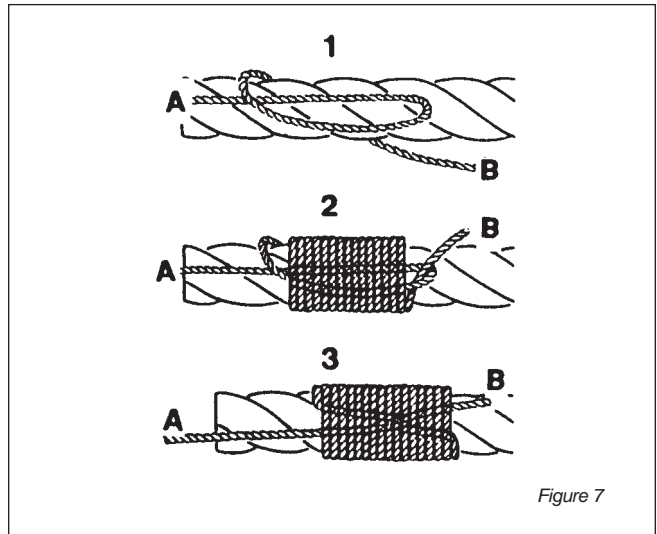

Figure 7
- When a fibre rope is cut, the ends must be bound or whipped to keep the strands from untwisting. Figure 7 shows the right way to do this.